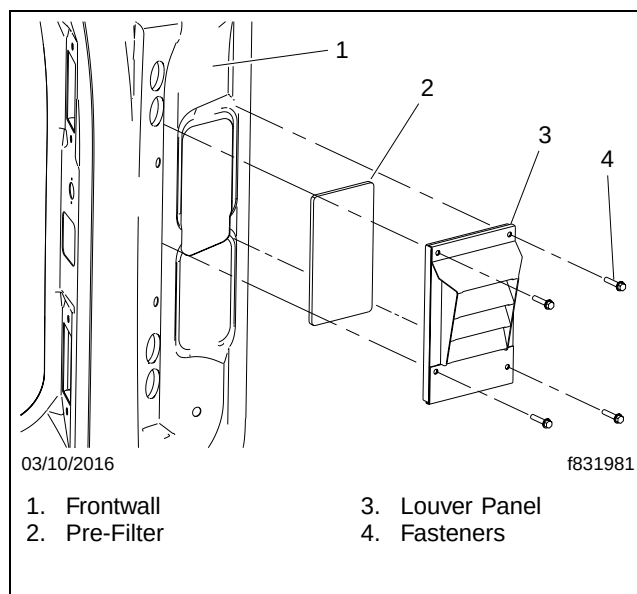

Fig. 4, Installing the Pre-Filter
7. Install the new foam pre-filter into the louver panel. See **Fig. 4**.